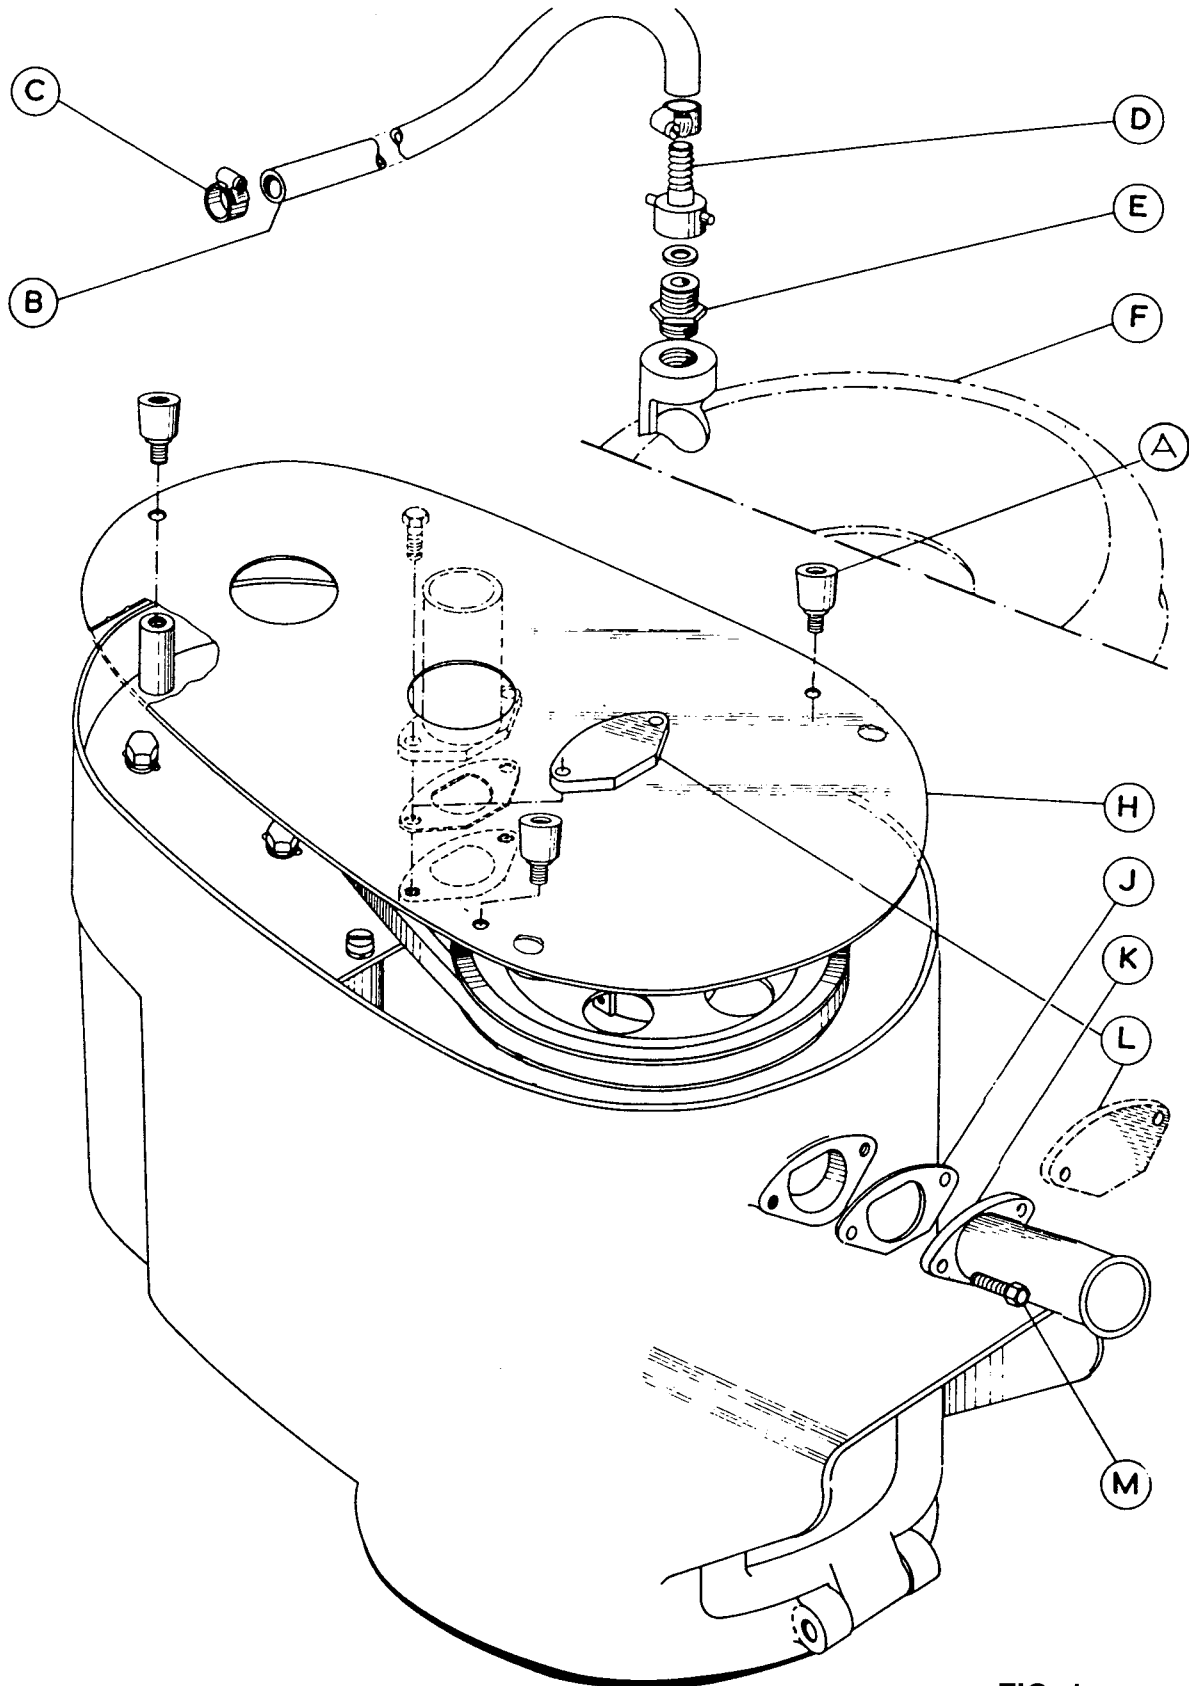

FIG. 1
2. Remove hopper cover (F/ Fig 1) by turning in clockwise direction and lifting.
8. Fit flanged drain pipe (K Fig 1) and gasket (J Fig 1) in appropriate position with screws (M Fig 1). Blank off unused drain outlet with blanking plate (L Fig 1).
9. Check whether machine is to be (A) Free Standing (B-) Mounted on Stand without Wheels or (C) Mounted on Stand with Wheels. If (A), hold base plate (H Fig 1) in position and screw in feet (A Fig 1), having first greased threads for easy removal when servicing. Turn machine upright and place on bench or stand. Note: type (B) & (C) to be secured to stand.